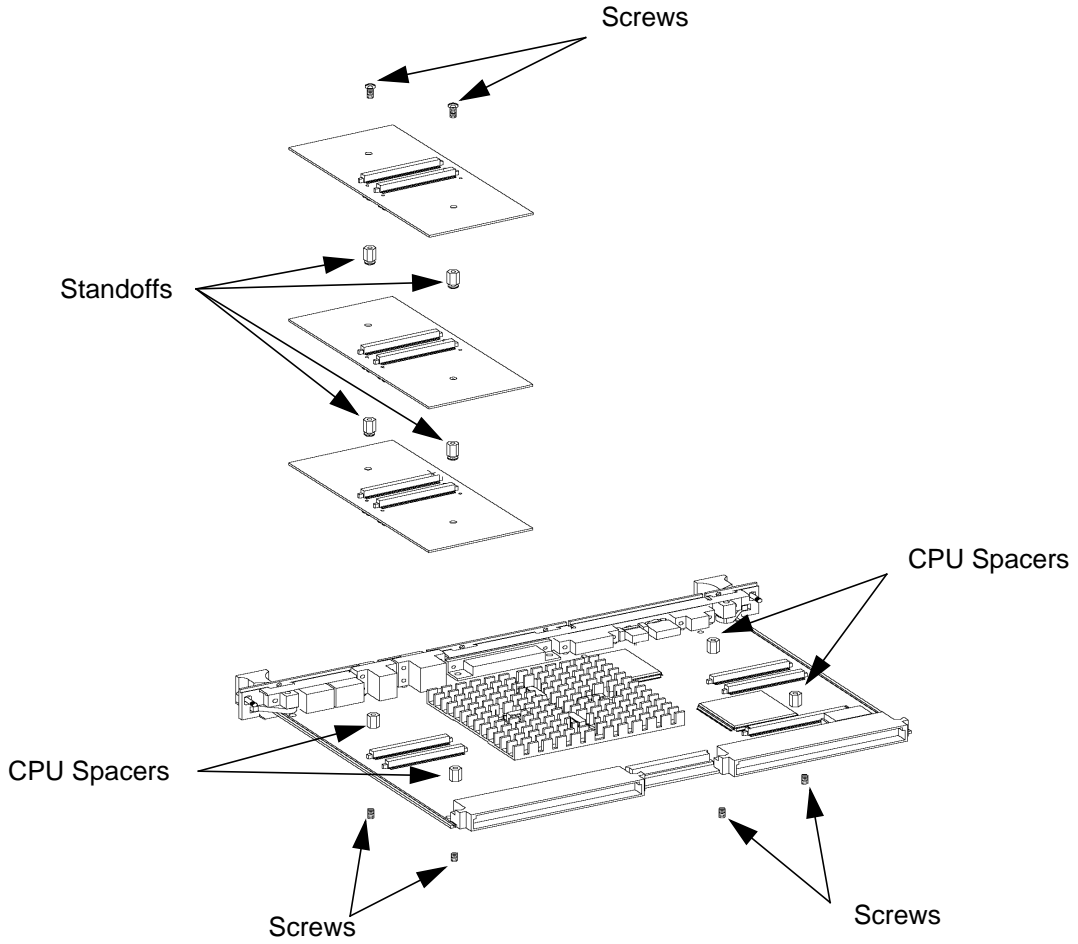

Figure 2-1 **Installing RAM Cards**
- 1 Place the first RAM card on the board standoffs, lining up the connector on the RAM card with the connector on the board, as shown in Figure 2-1.